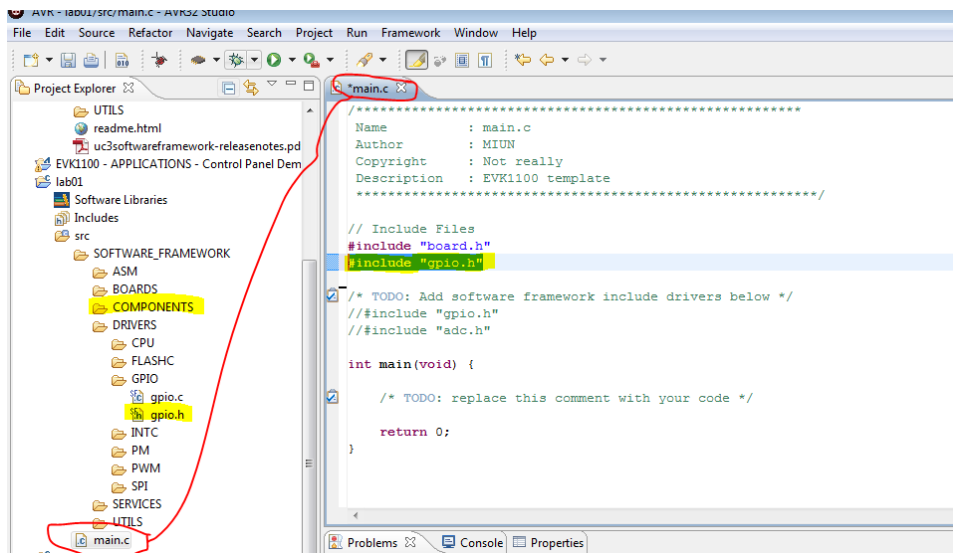

Figure 7. Adding header files in main
- Now you add/write your required source code/header files in the main as shown in Figure 7.